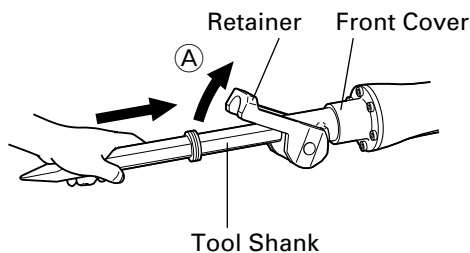

Fig. 3
(1) Clean, then smear the accessory shank portion with grease or machine oil.
(2) Move the retainer to open position (A) and seat the accessory, such as a bull point, a cutter, etc., in the hexagonal hole in the front cover (See Fig. 3).